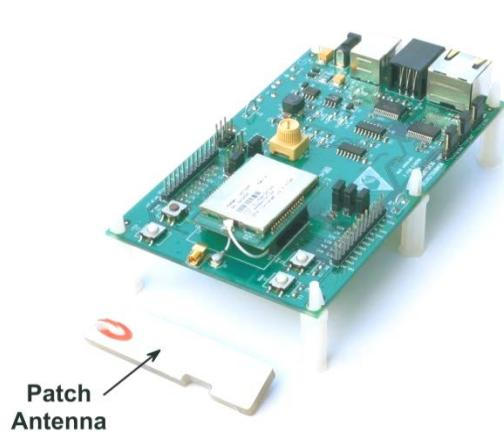

Figure 8-2 DNT24MP Radio/Board/Antenna
1. Figure 8-2 shows a DNT24MP radio installed on an interface board, and a patch antenna. Observe ESD precautions when handling the kit circuit boards. Install a patch antenna on each interface board by pressing the antenna into the interface board RF connector with moderate pressure until the antenna snaps onto the connector, as shown in Figure 8-3. Note that no external antenna is required when using the DNT24MPA radios supplied in the DNT24MA Kits.